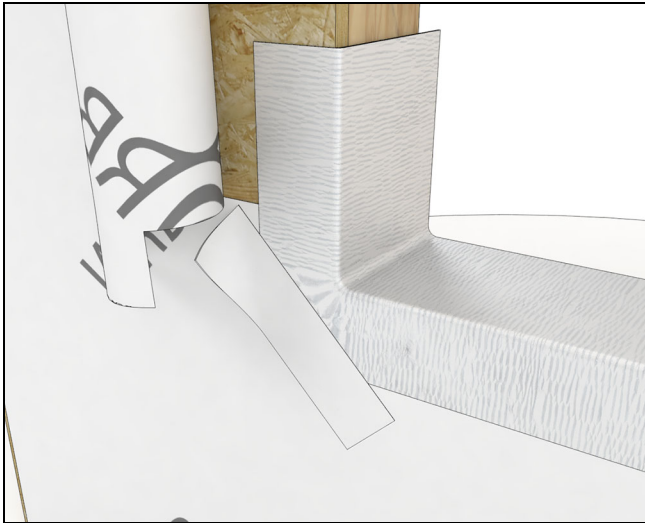

Figure 25
9. Apply seam seal tape at the corners of the flexible flashing. See Figure 25.